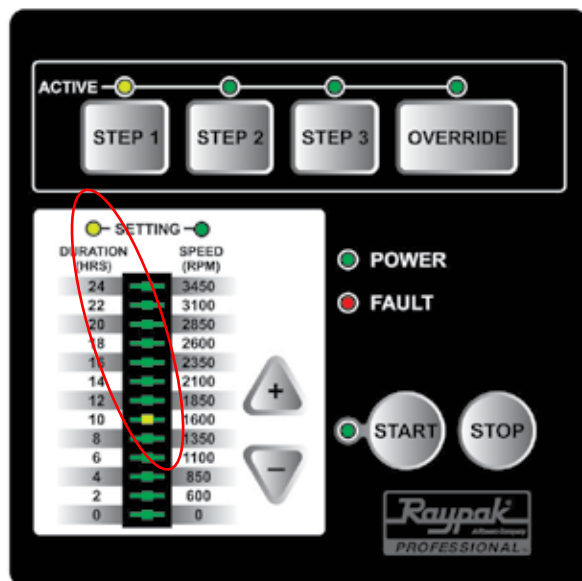

Figure 5
5. Using the UP (+) or DOWN (-) arrows, toggle to the desired duration that you want this speed to run in hours. The Bar graph will show the setting as you toggle up and down. (See Figure 5 - shows the duration being set at 10 hours.)